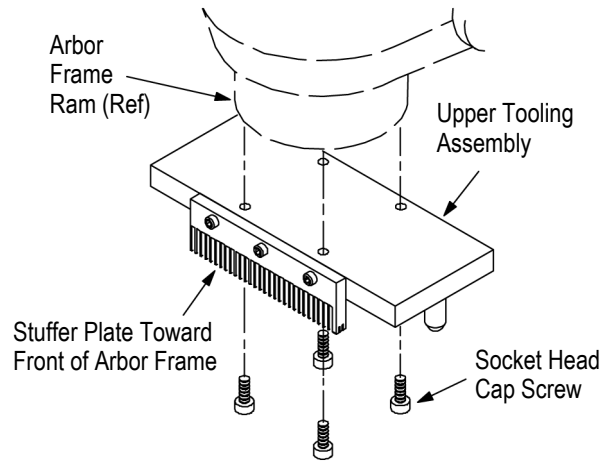

Figure 2
2. Using four socket head cap screws, mount the upper tooling assembly to the arbor frame ram, making sure that the tooling assembly stuffer plate is toward the front of the arbor frame. Refer to Figure 2.